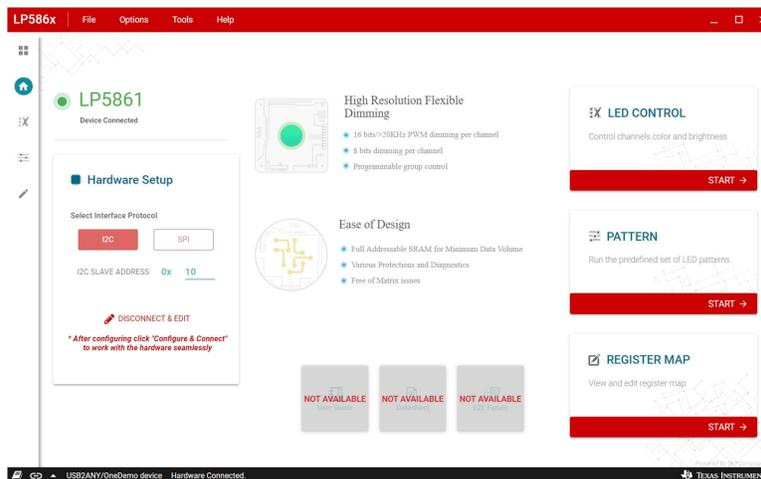

Figure 3-6. Home Page
To improve performance under different applications, first configure some key settings. Select the *DEVICE CONFIGURATION* button to show the detail setting slide, which is illustrated in Figure 3-6. Maximum current (MC) is set here.